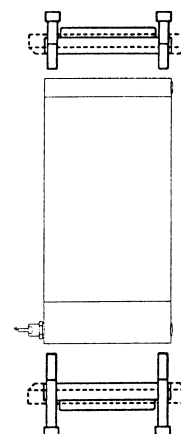

Fig.1
- remove end covers (Fig.1).
- mount spindle set into crown (with pick up) (Fig.1)